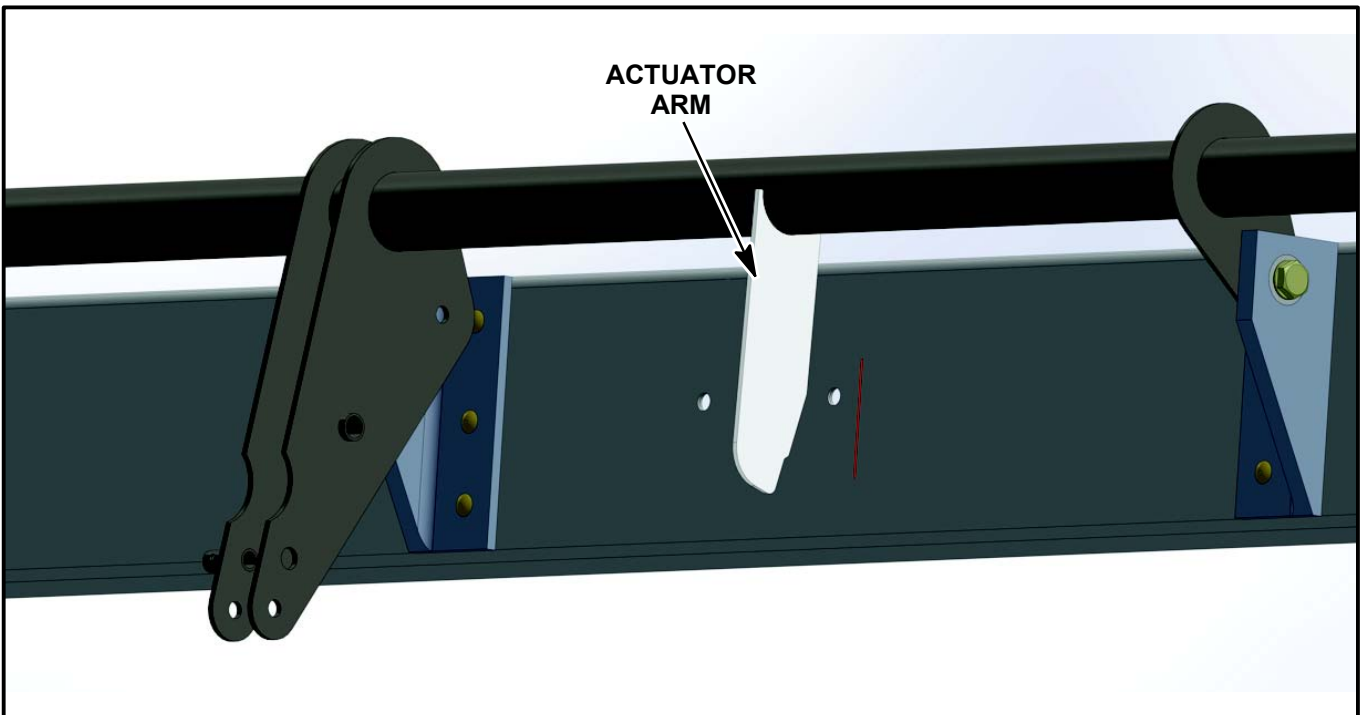

Figure SIM20-142-07 - FLAP ACTUATOR ARM
- 1.9. The flaps may be moved (and supported) at the landing position for ease of access to the actuator arm. (Refer to Figure SIM20-142-07.)